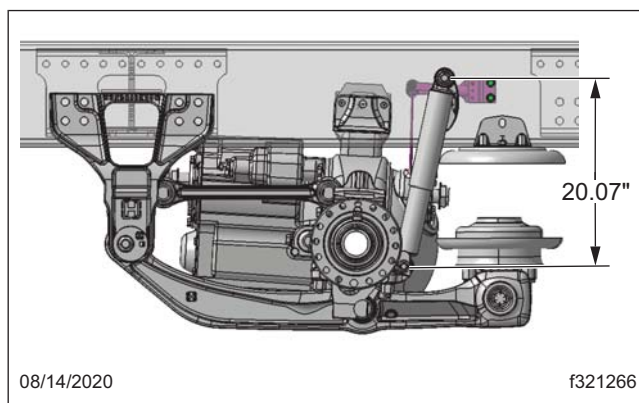

Fig. 3, Measuring the Suspension Ride Height
13. Check the suspension ride height by measuring between the shock mounting bolts. Measure from the centerline of the upper shock bolt to centerline of the lower shock bolt. The distance should equal 20.07 inches (50.98 cm). If necessary, set the suspension height by adjusting the rod in the lower rubber adjustment sleeve to achieve 20.07 inches (50.98 cm). See Fig. 3.